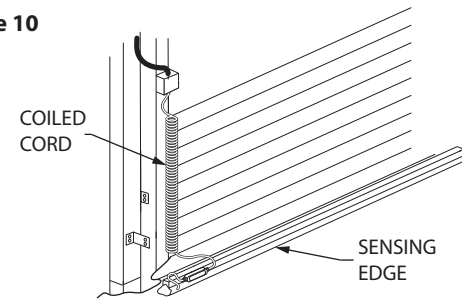

**Figure 9B**
- 6B) **Monitored** sensing edge connects to (ODC STB) terminals on main board through a Miller Edge Interface Module as shown in **Fig. 9B**.